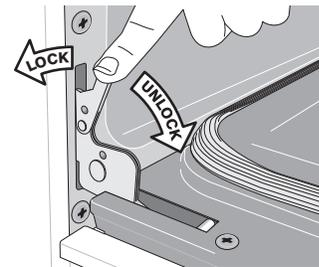

Figure 27: Door hinge locks
2. Pull the door hinge locks on both left and right door hinges down from the oven frame completely towards the oven door (See Figure 27). A tool such as a small flat-blade screwdriver may be required.
4. Push the door hinge locks up towards and into the oven frame on both left and right oven door hinges to the locked position (See Figure 27).